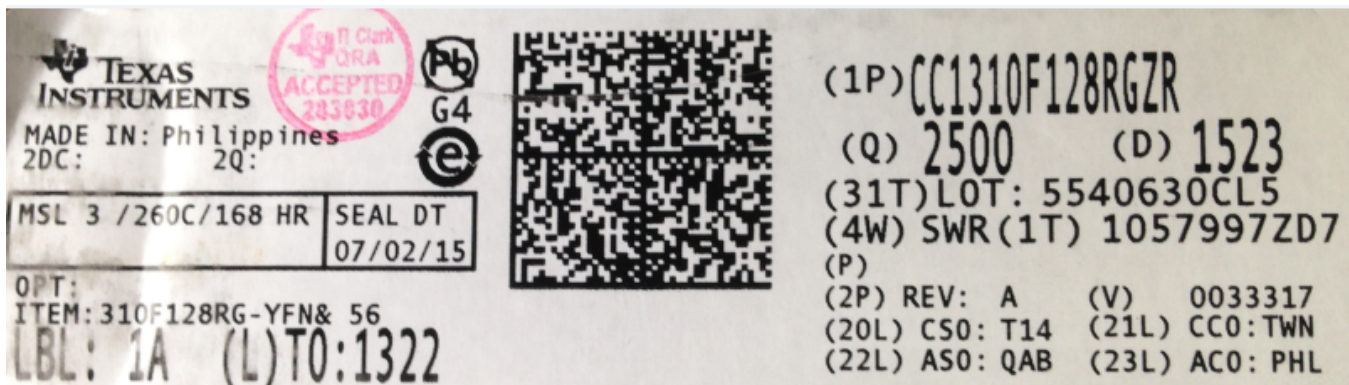

Figure 3. Sample Product Shipping Label for CC1310 Device
- The die revision name is shown on the tape and reel label as shown in the example label in Figure 3.